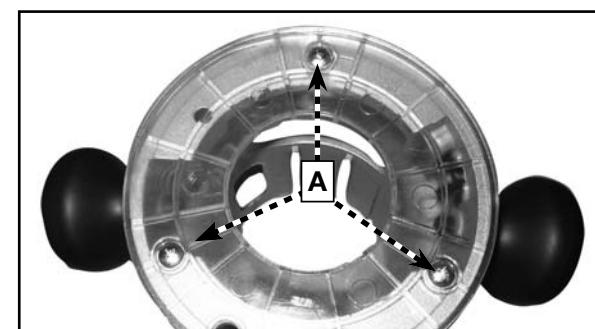
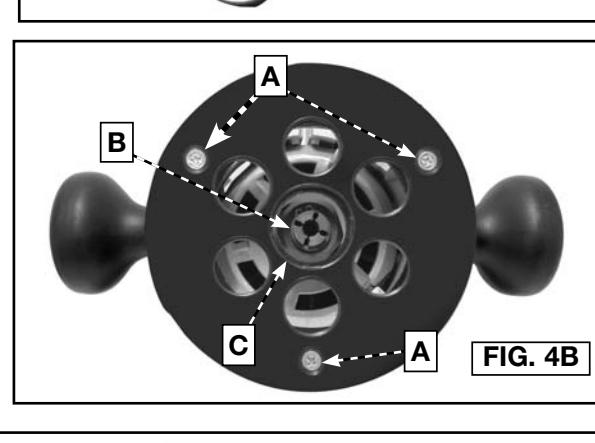

FIG. 4A
FIG. 4B
- Remove the standard large-hole sub-base by removing three screws (A) Fig. 4A. Replace with accessory sub-base (Fig. 4B), but do not fully tighten screws (A).
- Open the clamp and adjust the power unit so that the collet nut (B) engages the center hole in the sub-base (C). Allow the sub-base to center itself on the collet nut. Close the clamp.
- Tighten the sub-base mounting screws (A) Fig. 4B securely.